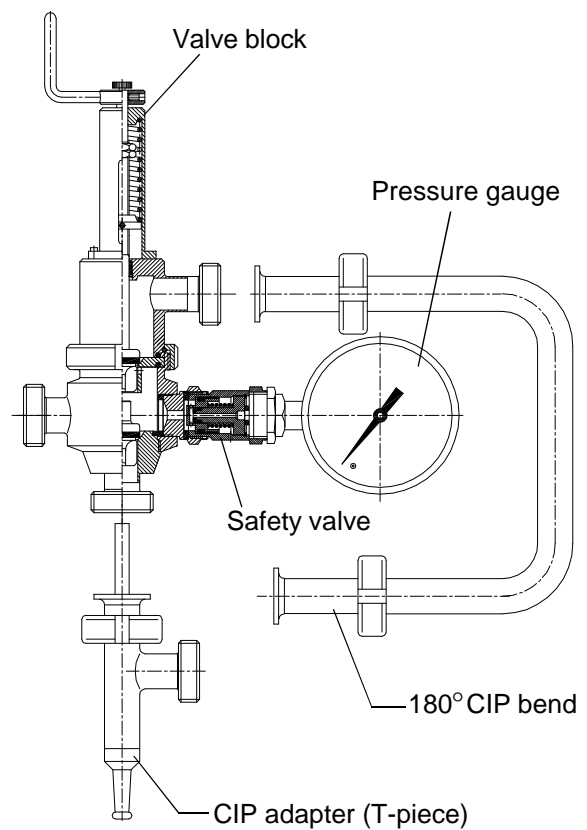

Fig. 4
3. Constant pressure regulator (adjust. spring loading) with safety valve for pressure gauge and CIP adapter. (See fig. 4)